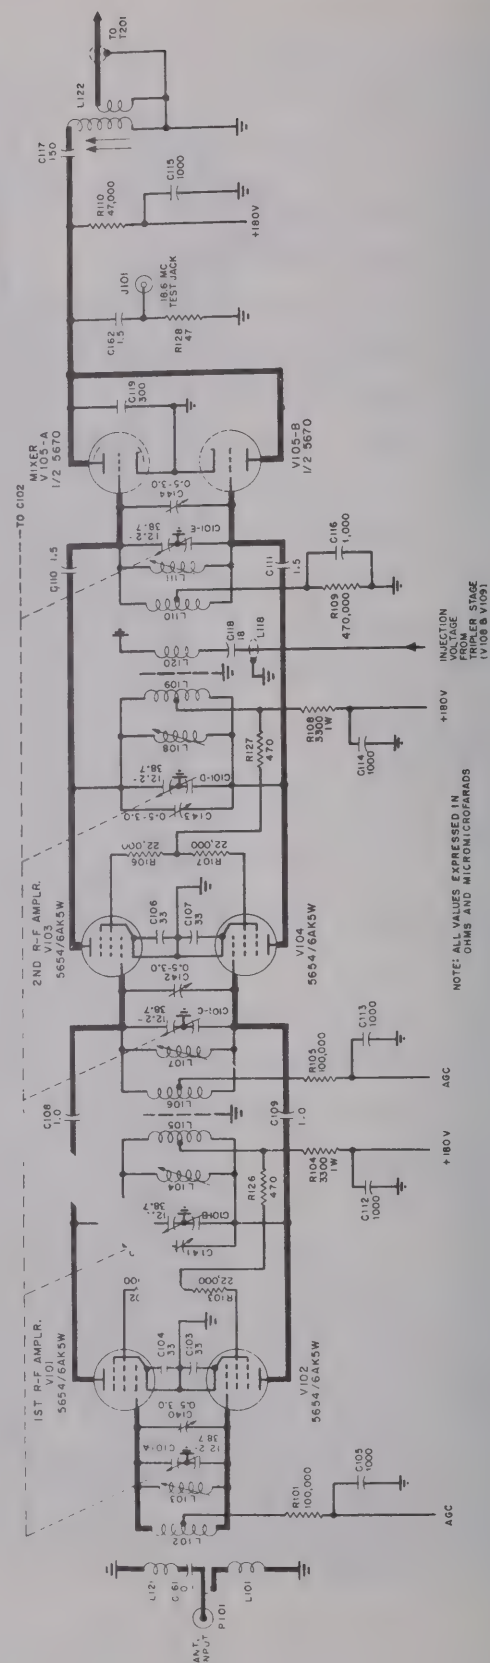
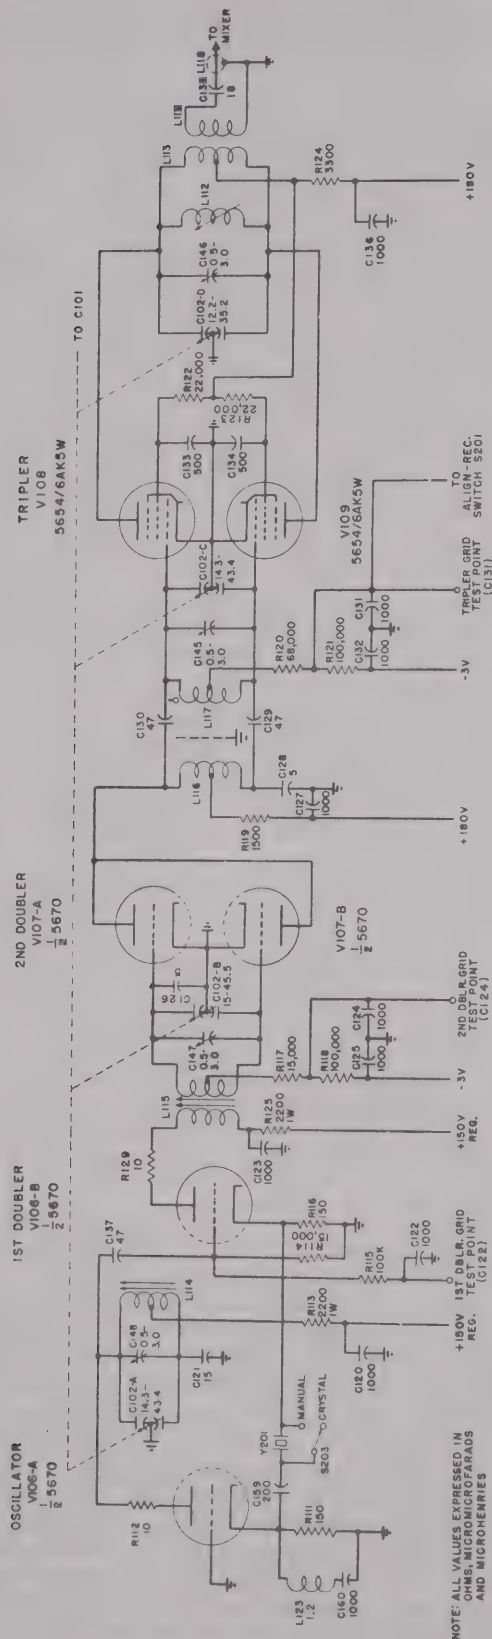

Figure 2-4. R-F Amplifier Section of Preselector, Simplified Schematic Diagram
Figure 2-5. Oscillator-Multiplier Section of Preslector, Simplified Schematic Diagram
A short piece of coaxial cable in the filter extends the antenna transmission line to connector J407, at the rear of the filter base plate (figure 3-3). This connector, in turn, plugs into coaxial receptacle P101, from which the antenna circuit extends to the tuned circuit composed of L101, C161, and L121; see figure 2-4. This circuit is inductively coupled to L102, in the input circuit of the first r-f stage.
(c) **FIRST R-F AMPLIFIER.**—As shown in the simplified schematic diagram, figure 2-4, the antenna circuit is coupled to the grid-input circuit of this stage. The grid circuit consists of tank inductance L102, trimmer inductance L103, section A of capacitor C101, and trimmer capacitor C140. Critical coupling is employed to maintain uniform sensitivity over the entire frequency range. Two type 5654/6AK5W tubes, V101 and V102, are operated in push-pull. The push-pull arrangement approximately halves the tube and circuit capacitance and inductance, permitting a greater range of frequency coverage and higher circuit efficiency. AGC voltage is applied to the grid circuit of this stage through decoupling resistor R101 and the center tap of coil L102. A feed-through type r-f bypass capacitor (C105) functions to bypass the AGC line at this point; this capacitor is located in the casting wall. Plate and screen voltages are brought through resistor R104; the supply is bypassed to ground at this point by capacitor C112. Resistors R102 and R103 are screen-voltage dropping resistors, while resistor R126 decouples the plate and screen circuits. The screen grids are bypassed to ground by the interelectrode capacitances of the tubes and by the stray capacitance of the socket and the socket wiring. Capacitors C103 and C104, in the cathode circuits, bring the cathodes closer to r-f ground potential by creating series-resonant circuits with the inductance of the cathode leads. The plate circuit is similar in design to the grid circuit and consists of tank inductance L105, section B of C101, trimmer inductance L104 and trimmer capacitor C141. Plate voltage is brought through resistor R104 to the center tap of coil L105. No appreciable inductive coupling exists between the plate circuit of the first r-f stage and the grid circuit of the second r-f stage because coils L105 and L106 are shielded from each other by the wall of the casting. Coupling between these two stages is accomplished by means of capacitors C108 and C109, which are connected from the plate circuit of the tubes in the first stage to the grid circuit of the tubes in the second stage.
(d) **SECOND R-F AMPLIFIER.**—This stage, employing tubes V103 and V104 in push-pull, is identical in design and in circuit constants to that of the first r-f stage; see figure 2-4. The tuned grid circuit consists of section C of capacitor C101, tank inductance L106, trimmer inductance L107 and trimmer capacitor C142. The plate circuit consists of section D of capacitor C101, tank inductance L109, and trimmers L108 and C143. AGC voltage is brought to the center tap of coil L106 through decoupling resistor R105; the AGC line is bypassed to ground by capacitor C113. Plate and screen voltages are brought through resistor R108; the supply is bypassed to ground at this point by capacitor C114. Resistors R106 and R107 are screen-voltage dropping resistors, while resistor R127 decouples the plate and screen circuits. The screen grids are bypassed by the interelectrode capacitances of the tubes and by the stray capacitance of the socket and socket wiring.
(e) **MIXER.**—The mixer, or first detector, stage employs a type 5670 dual triode, V105, in a push-push arrangement; see figure 2-4. The grids are connected in push-pull through the resonant circuit consisting of section E of capacitor C101, tank inductance L110, trimmer capacitor C144, and trimmer inductance L111. The plates of the two triodes are connected in parallel and are shunt-fed through resistor R110. Plate voltage is blocked from the grounded primary of L122 by capacitor C117. This capacitor and C119, connected in series, resonate with L122 at the intermediate frequency of 18.6 mc. The plates of V105 are connected to the junction of the two capacitors in order to provide impedance matching between the tube and the tuned circuit. With the push-push arrangement of the mixer, a high order of conversion gain is obtained because the push-push conversion transconductance is approximately twice that of a single converter tube.
The output of the second r-f stage is coupled to the grid circuit of the mixer stage by capacitors C111 and C110, while the output of the oscillator-multiplier circuit is inductively coupled to the grid circuit of the mixer through a coupling loop consisting of inductance L119 and capacitor C135 in the oscillator-multiplier unit (figure 2-5), and inductance L120 and capacitor C118 on the r-f converter (figure 2-4). L118 provides the inductive coupling between the oscillator-multiplier and the r-f amplifier. This coupling arrangement maintains a more uniform mixer-injection voltage over the frequency range of operation. The values of capacitors C118 and C135 are so chosen that, together with the shunt capacity of the short coaxial connecting line and the coupling coils, the loop is series resonant at a frequency (190 mc) below the low end of the band, and parallel resonant at a frequency (470 mc) above the high end of the band. Consequently, at the low-frequency end, the transfer voltage induced in the converter input tank is increased, while at the high end of the band the induced transfer voltage is reduced. If the coupling were not resonant, as described above,
(2) **OSCILLATOR - MULTIPLIER SECTION.**—The oscillator-multiplier section generates a local injection signal 18.6 mc higher in frequency than the received signal. The basic oscillator frequency is generated in triode V106-A and is multiplied twelve times in the two doublers and one tripler which follow, as shown in the simplified schematic diagram, figure 2-5. When the OSC. switch, S203, is in the MANUAL position, the range of the oscillator is from 20.2063 to 35.05 mc, and the frequency at the plate of the tripler may range from 242.475 to 420.6 mc, allowing the radio receiver to operate over a frequency range of from 223.875 to 402.0 mc. When switch S203 is in the CRYSTAL position, the radio receiver will operate at the frequency determined by the crystal unit, within the frequency range of 222.75 to 404.0 mc. Thus, crystal frequencies between 20.1125 and 35.2167 mc may be used.
(a) OSCILLATOR-FIRST DOUBLER.—The oscillator and first doubler stages utilize a type 5670 dual triode; see figure 2-5. One half of the tube, V106-A, functions as a grounded-grid oscillator. The second half of the dual triode, V106-B, is arranged as a split-load cathode voltage follower, and serves as both a frequency doubler and a source of feedback to the oscillator cathode.
In the actual circuit (figure 2-5), V106-A and V106-B correspond, respectively, to V1 and V2. Y201 corresponds to Y1, while R111, R116 and C137 are equivalent to R1, R2 and C1, respectively. The oscillator tank circuit (L114, C102-A and C148) corresponds to the simplified components, L and C. The plate circuit of the first doubler, V106-B, is tuned to the second harmonic of the oscillator frequency. Therefore, the plate-circuit impedance at the oscillator frequency is very low, resulting effectively in grounded-plate (cathode follower) operation of V106-B at that frequency.
(b) SECOND DOUBLER.—The second doubler stage employs the two sections of the type 5670 dual triode, V107, in a push-push circuit arrangement; see figure 2-5. The grid circuit is balanced and is tuned to the second harmonic of the oscillator frequency. The tuned circuit consists of the center-tapped secondary winding of transformer L115, section B of ganged capacitor C102 and trimmer capacitor C147. Capacitor C126 compensates for the capacitance unbalance to ground in the secondary winding of transformer L115.
(c) TRIPLER.—The tripler stage employs two type 5654/6AK5W pentodes, V108 and V109, in push-pull; see figure 2-5. The parallel-resonant grid circuit consists of inductance L117, section C of capacitor